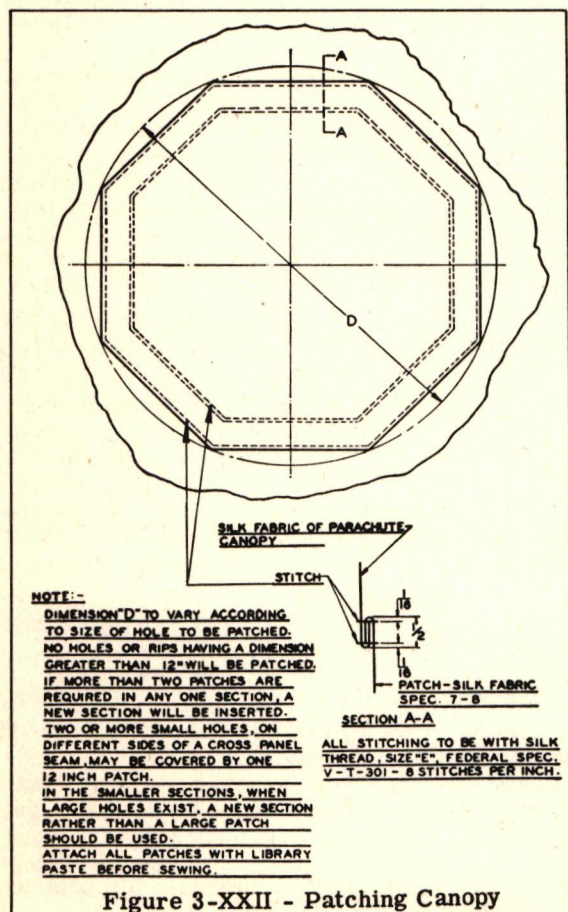

Figure 3-XXII - Patching Canopy
a. The silk of the canopy is inspected for damaged and weak places by carefully looking over each panel and all seams. Mildew, rust, water or oil stains, battery acid, etc., will cause silk fabrics to deteriorate rapidly. If evidence of any of these conditions exists, the necessary repairs must be made, after which, if there is any doubt as to its serviceability, the parachute is drop-tested or reported for overhaul. The condition of the silk is not tested by attempting to tear it and any required patches are applied as shown in fig. 3-XXII.
(1) Grommets are inspected and replaced if no longer serviceable.
(2) The cones in which the rip cord prongs are inserted are carefully examined, and all rough places and sharp corners removed. The surface of these cones should be perfectly smooth.
(3) Pack-opening elastics are replaced whenever any indication of deterioration or loss in elasticity is observed. When installing elastics, the hooks on each end are inserted in the eyelets on the pack with the open part toward the pack, and clinched after packing is completed. If the end of a hook is allowed to remain open, it may wear a hole through the pack and foul the pilot parachute.
(4) Worn or damaged seat and back pads must be replaced. Both pneumatic and sponge rubber pads are used for this purpose. In no case is a seat pad sewed to a packed parachute.
(5) Careful inspection of the rip cord housing is made for breakage and for improper attachment to the pack and harness. It should be so secured that, while the rip cord is in place, any stretching of the housing or pulling or jerking of the harness will have no tendency to withdraw the rip cord prongs from the cones. Failure to observe this requirement may result in premature opening when the parachute is being worn. The housing must also be carefully inspected for rust, flexibility, and length. A flexibility and breakage test is made by coiling the housing around a two-inch metal bar or tube. If the housing cracks or takes a permanent set, it is unserviceable. There are two types of housings, the seat-type which is 24-1/4 inches long and the back, 20 inches long. The measured length of a housing has a stretch allowance of 1/2 inch per foot. The chest-type parachute requires no housing.
(6) The rip cord must be inspected to make sure that there are no rust spots and that the wrapping and soldering on the pins is smooth and unbroken. A check must also be made on the pins to see that they are not bent or defective in any way. All rip cord assemblies are inspected for soft locking pins. This inspection can be made by inserting 1/2 inch of the end of the rip cord pin between soft metal lined jaws of a vise or in a jig made by drilling a hole 1/2 inch deep in a soft metal block. A small spring scale is then hooked into the rip cord grip and a seven-pound pull applied at right angles to the pin, being careful that the surface of the pin is not marred in any manner. All pins that take a permanent set are discarded as being too soft. Usually, pins that are too soft can be readily bent with the thumb and index finger of one hand. Rip cord assemblies must not under any circumstances be kept in service in a condition that might create a hazard if their use should be required in an emergency. This applies particularly to the condition of the cord at a point adjacent to the grip, below the solder, for at this point the flexing of the cable tends to break the strands. To guard against the possibility of failure, all rip cords are carefully inspected for broken cable strands, particularly adjacent to the grip, and for any other defects that might indicate failure of the assembly in normal use.